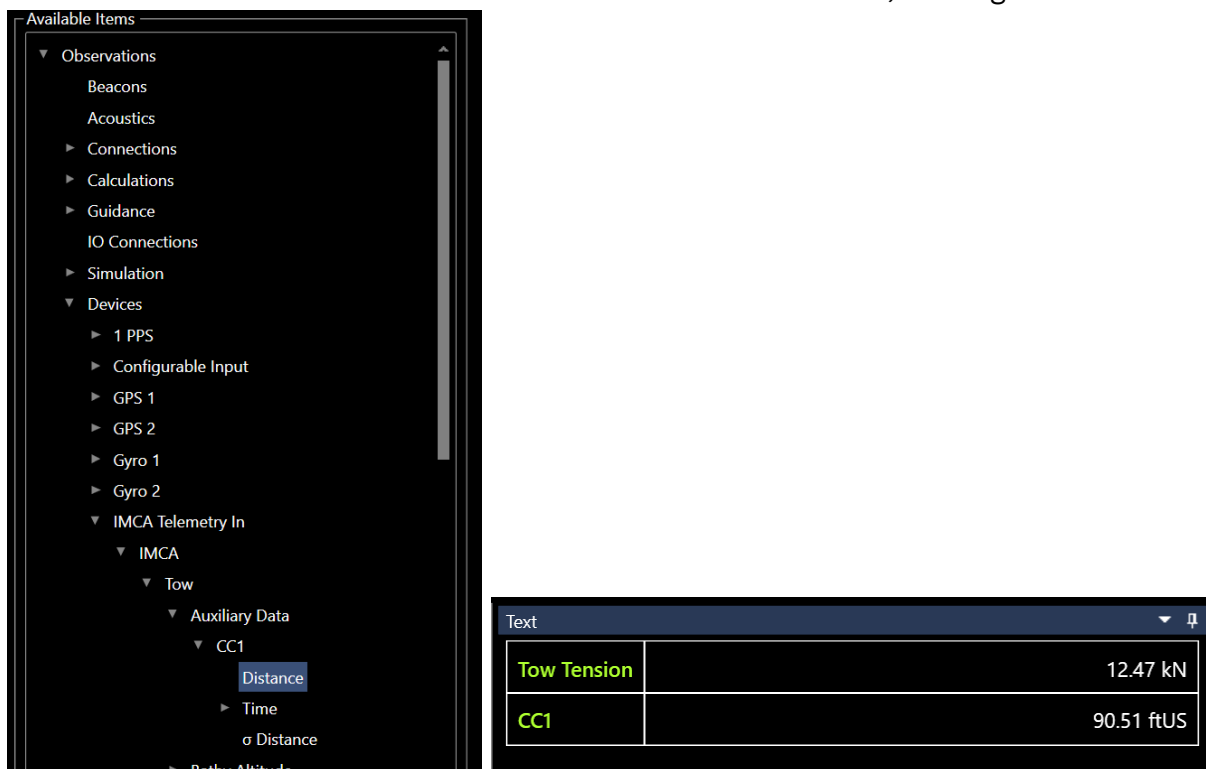

Figure 18 Auxiliary Data - CC1
4. The cable counter CC1 data will now be available, see Figure 18